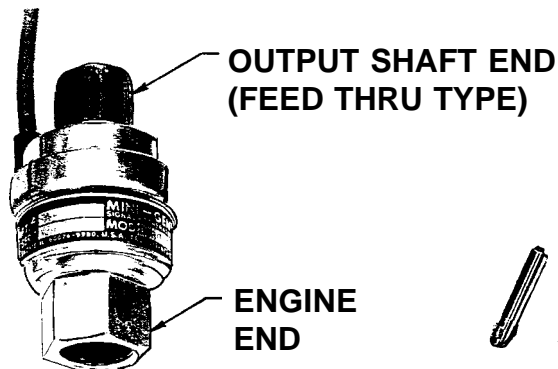

Figure 3
5. **FEED-THRU:** On engine equipped with only a single take-off that is already used to drive an existing device such as a mechanical tachometer, a “feed-thru” style of tachometer generator is needed. This allows the existing tachometer drive cable to be re-connected to the opposite end of the tachometer generator. (See Figures 3 & 4 below)